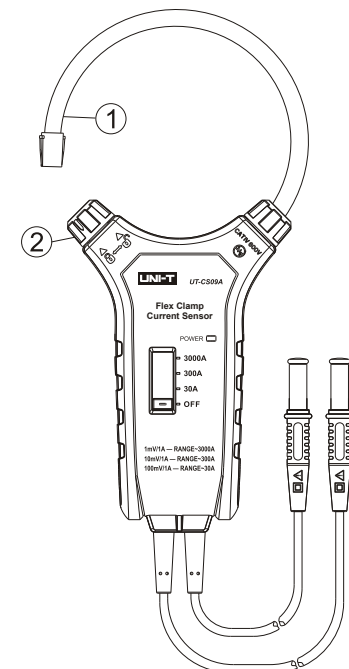

Figure 3
2. Unlock the Rogowski coil according to Section 5.2 (see figure 3).